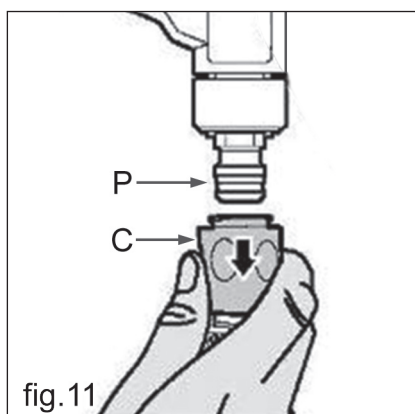

fig.11
1. Pulling back on the connector's outer sleeve (fig.11, C),